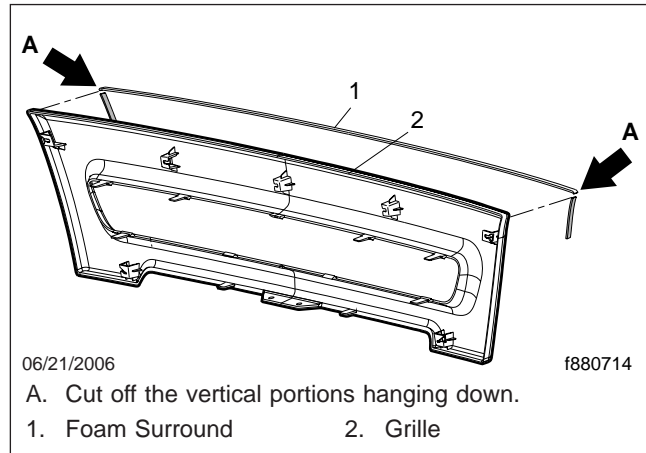

Fig. 3, Modifying the Foam Surround
4. Cut off the vertical portion from each end of the foam surround as shown in Fig. 3.